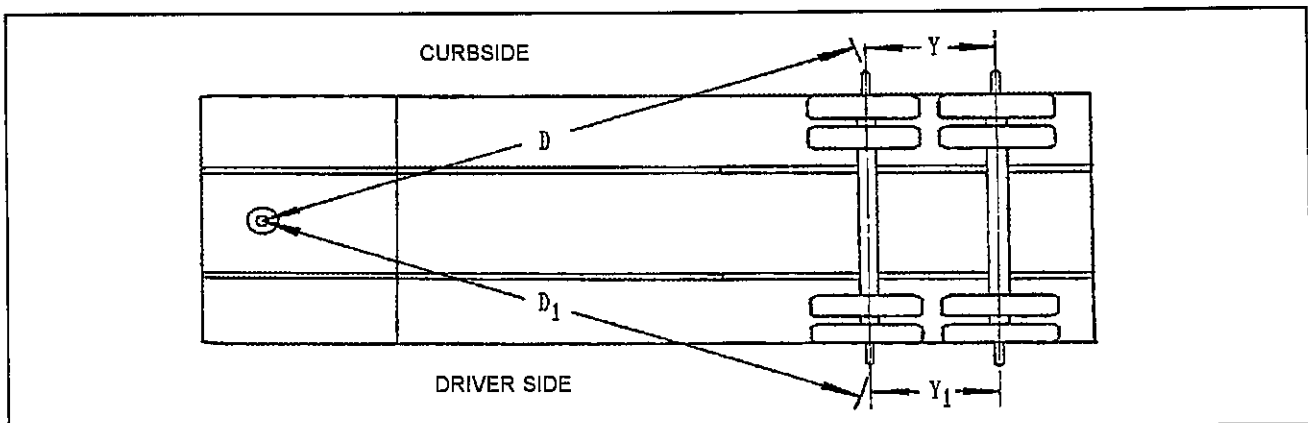

Fig. 4-9 Checking Axle Alignment
- Measure (D) from the plumb bob to the center point on one end of the axle. Record this measurement (See Figure 4-9).
5. Measure (D1) to the other end of the axle in the same manner as in Step 4. Record this measurement (See Figure 4-9).